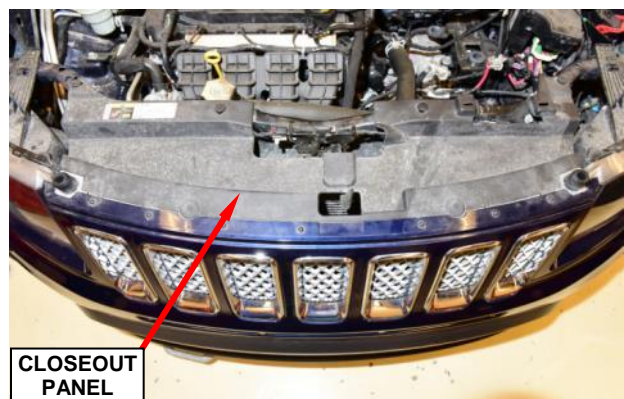

Figure 16 – Grille Closeout Panel
48. Remove and save the push pins and screws from the grille closeout panel (Figure 16).
49. Remove the grille closeout panel (Figure 16).